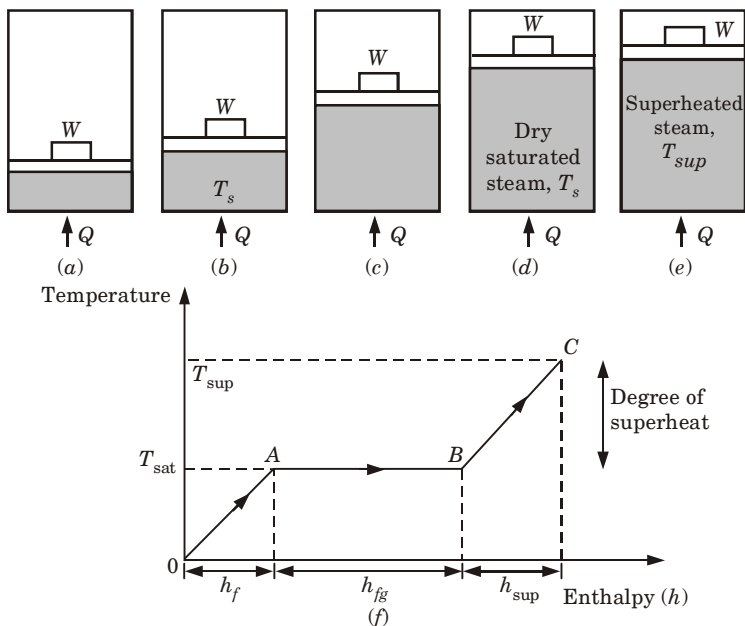

Fig. 4.4.1. Process of steam formation at constant pressure.
3. Volume of water increases a little bit due to heat addition as shown in Fig. 4.4.1. The quantity of heat added to water during this process is given by
5. When part of water remains in liquid form but major part of it is converted into vapour form, the steam is known as wet steam. During this process, there is a large change of volume because water is getting converted into steam, as is shown in Fig. 4.4.1(c).
6. On further heat addition, remaining part of water gets evaporated into steam and it is continued till all the liquid is completely evaporated in steam as shown in Fig. 4.4.1(d).
9. During this process of superheating, there is an increase in the volume as shown in Fig. 4.4.1(e).